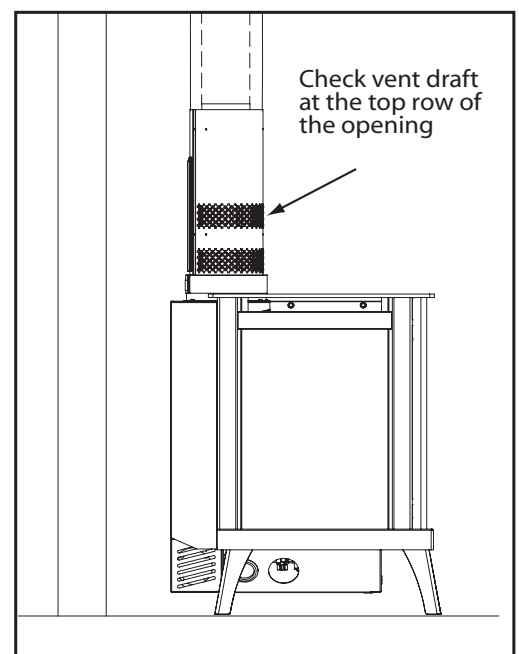

Figure 34: Draft test place.
4. After a minimum of 10 minutes operation, test the chimney draft with a smoke match at the top row of the pattern to confirm that there is adequate draft or 'pull' at the openings around the body of the Drafhhood Adaptor, as shown in Figure 34.